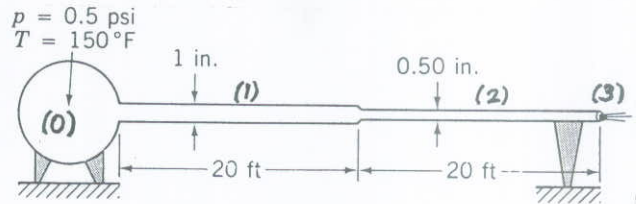

FIGURE P8.107
8.107 Air, assumed incompressible, flows through the two pipes shown in Fig. P8.107. Determine the flowrate if minor losses are neglected and the friction factor in each pipe is 0.015. Determine the flowrate if the 0.5-in.-diameter pipe were replaced by a 1-in.-diameter pipe. Comment on the assumption of incompressibility.